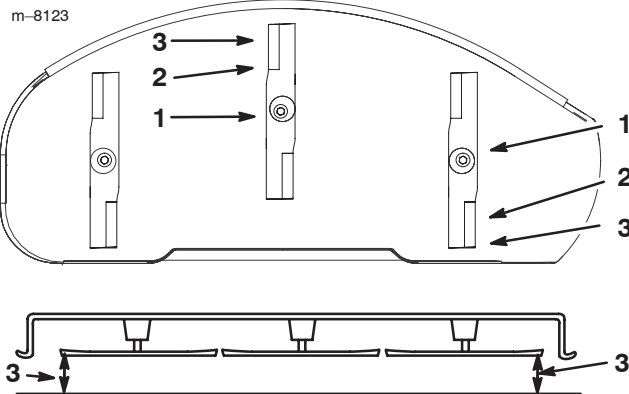

Figure 40
7. Set the height-of-cut at 3 inch (76 mm) and carefully rotate the blades so they are facing front to rear (Fig. 40).
8. Measure between the tip of the front blade (Fig. 40) and the tip of the rear blade to the flat surface. If the front blade tip is not 1/16–5/16 inch (1.6–7.9 mm) lower than the rear blade tip, adjust the front trunion rods.
11. After adjusting both trunion rod yokes evenly, secure the yokes with the hairpin cotters. Check the front-to-rear level again. Continue adjusting the yokes until the front blade tip is 1/16–5/16 inch (1.6–7.9 mm) lower than the rear blade tip (Fig. 40).